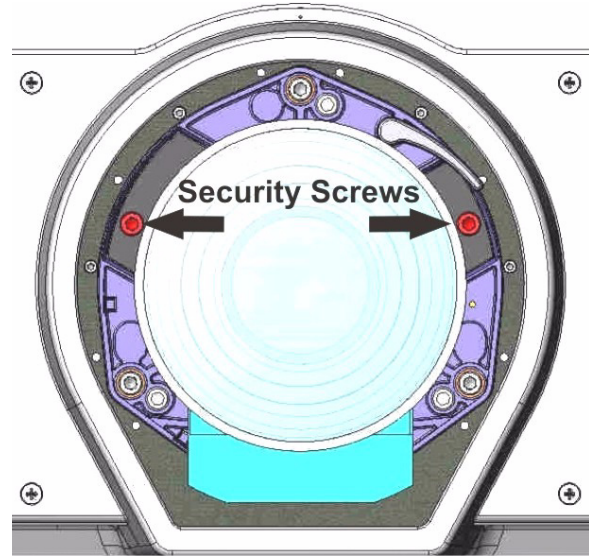

FIGURE 2-2 SECURITY SCREW LOCATION
3. Remove and retain the 2 security screws from the lens mount, see Figure 2-2 Security Screw Location.
6. For added stability such as motion applications, fasten the security screws, see Figure 2-2 Security Screw Location provided on the lens-mount, using the tool provided. NOTES: 1) *Recommended for heaviest lenses such as 0.73:1 and 1.2:1.* 2) **Security screws MUST be installed when hoisting the projector overhead, or installing the projector in an overhead position.**